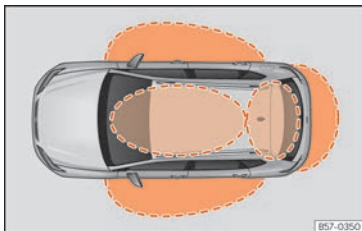
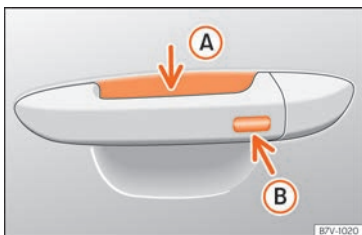

Fig. 80 Keyless Access: proximity zones.
Fig. 81 Door handle: sensor surfaces
» Fig. 81
Keyless Access is a key-free locking and ignition system to unlock and lock the vehicle without actively using its key. To do this, all that is required is to have a valid vehicle key in the detection area where you are attempting to access the vehicle » **Fig. 80** and to touch one of the sensor surfaces on the door handles » **Fig. 81** or operate the *softtouch*/handle on the rear lid » **page 105** » **1**.
If a valid key is in the proximity of the car, » **Fig. 80** the Keyless Access locking and starting system gives the key entry as soon as one of the sensor surfaces on the door handles is touched or the *softtouch*/handle on the rear lid is operated.
- Grip one of the front door handles. When you do this, you touch the sensor surface » **Fig. 81 A** (arrow) of the handle and the vehicle unlocks.
- Touch (once) the locking sensor surface » **Fig. 81 B** (arrow) on one of the front door handles. The door that is used must be closed.
- Touch (once) the sensor surface » **Fig. 81 B** (arrow) on one of the front door handles. The vehicle locks with the "Safe" security system » **page 100**. The door that is used must be closed.
- Touch (twice) the sensor surface » **Fig. 81 B** (arrow) of one of the front door handles to lock the vehicle without activating the "Safelock" security system » **page 100**.
When the vehicle is locked, the rear lid automatically unlocks on opening if there is a valid vehicle key in the proximity zone » **Fig. 80**.
- Push the central locking button  on the remote control and touch the locking sensor surface of the driver door handle  **Fig. 81 B** within the following 5 seconds. Do not grasp the door handle; otherwise the vehicle will not unlock. Deactivation is also possible if the vehicle is locked through the driver's door lock.
To close all the electric windows and the sunroof using the **comfort function**, keep a finger for a few seconds on the locking sensor surface  **Fig. 81 B** (arrow) of the door handle until the windows and roof have closed.
The sensor surfaces on the door handles could engage if hit with a water jet or high pressure steam if there is a valid vehicle key in the proximity. If at least one of the electric windows is open and the sensor surface  **Fig. 81 B** (arrow) on one of the handles is activated continuously, all windows will close.